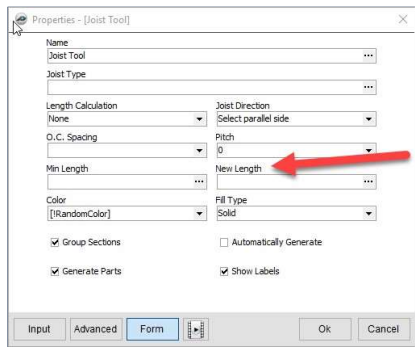

Figure 10
16. In the **Input Options** area of the **Edit Properties** window, there is an **Input** checkbox and a **Condition**: field. When the **Input** checkbox is checked and the condition in the **Condition**: field is satisfied, then the property will be displayed in the **Form** window. If the **Condition**: field is not satisfied, then the property will not be displayed in the **Form** window. If the **Input** box is checked but the **Condition**: field is blank, then the property will show up in the **Form** window. If the **Input** box is not checked, then the property will not be displayed in the **Form** window. As an example, enter **[New Length] = 10** into the **Condition**: field. Also, make sure the **Input** box is checked. Click on **OK** to close the **Edit Property** window. Click on **Form** at the bottom of the **Joist Tools Properties** window. You'll see in Figure 10 that there is no **Test Property** field. You will also notice that the **New Length** field is blank. Now put the value of **10** into the **New Length** field and press the **Tab** key to invoke the changed value.